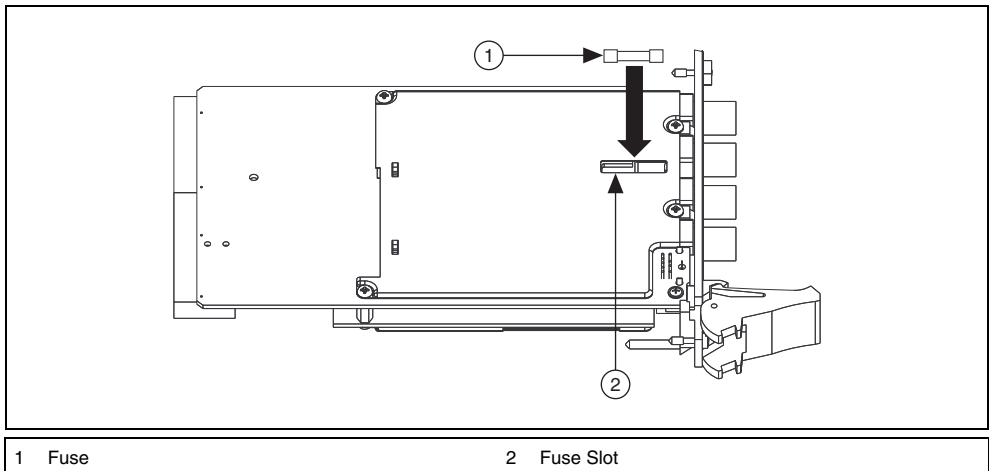

Figure 30. Replacing the Blown Fuse in the NI PXI-407x
9. Insert a new fuse into the fuse slot as shown in Figure 30.